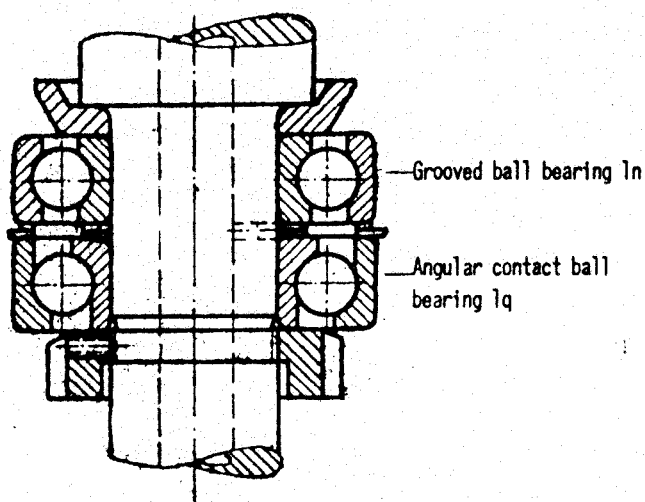

Fig. 7
- 3) Angular contact ball bearing 1q (fig. 7) may be loaded axially in one direction only. It must be mounted as shown in fig. 7. Faulty mounting will inevitably result in damage to bearing. The narrow rim of the outer ring of the bearing must be on top.